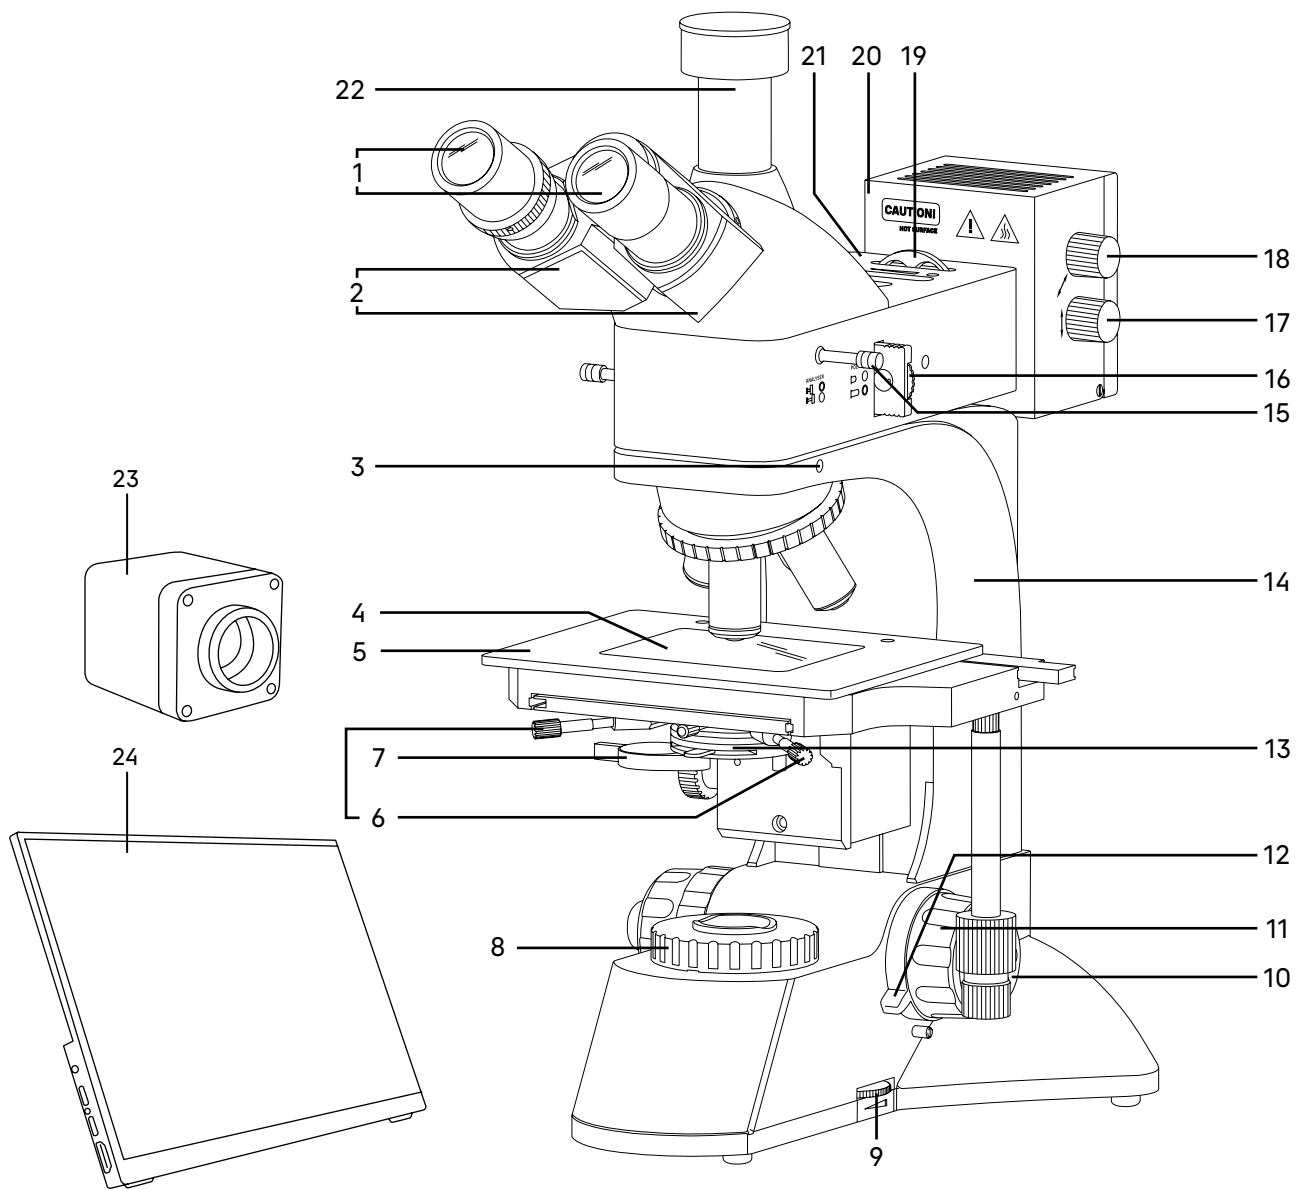
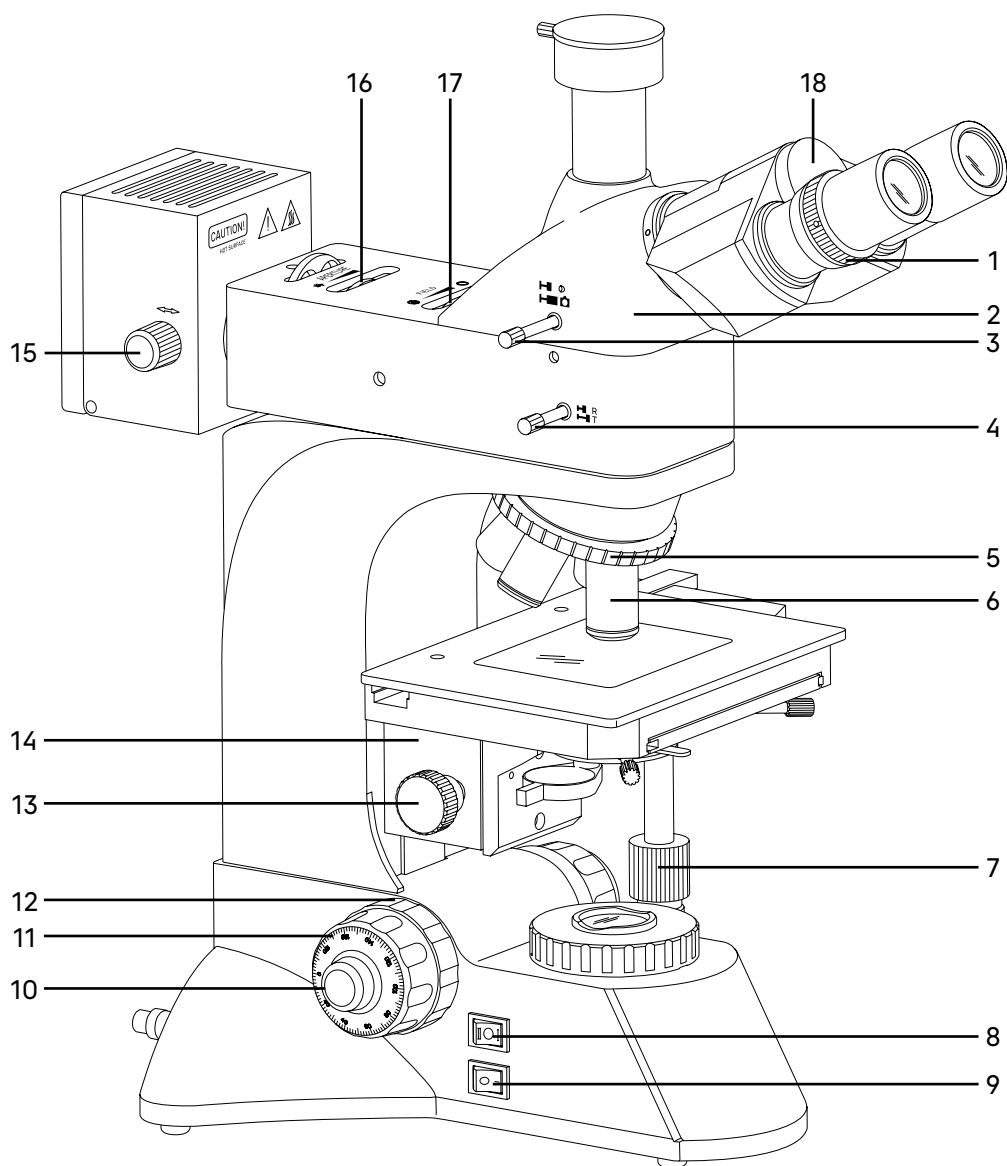

Fig. 1. MAGUS Metal D600 LCD Microscope. View from the right
Fig. 2. MAGUS Metal D600 LCD Microscope. View from the left
The general view of the microscope is given in Fig. 1, 2 and 3.
Parts attached to the stand 14 (Fig. 1):
- revolving nosepiece 5 (Fig. 2) with objectives 6 (Fig. 2)
- stage 5 (Fig. 1)
- condenser mount 14 (Fig. 2).
There is an ON/OFF switch 9 (Fig. 2) on the left side of the base. The power is on when the switch is in "—" position. The power is off when the switch is in "0" position.
There is also a transmitted/reflected light switch lever 8 (Fig. 2) on the left of the base. Position "I" corresponds to the transmitted light illuminator, position "II" – to the reflected light illuminator.
There is a brightness adjustment ring 9 (Fig. 1) on the right side of the base.
Focusing on the specimen is achieved by adjusting the height of the stage 5 (Fig. 1). Coarse focusing is performed by rotating the coaxial knobs 11 (Fig. 1 and 2) on both sides of the microscope stand.
Fine focusing is performed by rotating the knobs 10 (Fig. 1 and 2) on both sides of the microscope stand. Fine focusing allows for more precise focusing on the specimen and re-focusing the microscope to get an accurate image resolution when changing objectives.
The coarse focusing tension adjusting knob 12 (Fig. 2) is the ring between the stand and the coarse focusing knob on the left side. The ring adjusts the coarse focusing tension so that the tension is comfortable for the user, but the stage does not lower spontaneously during operation.
The coarse focusing lock knob 12 (Fig. 1) is located on the right side. Once the coarse focusing is completed, we recommend rotating the knob clockwise as far as it will go. This secures the coarse focusing position to allow for rapid re-focusing after the specimen is changed.
The microscope head 2 (Fig. 2) provides the visual observation of the specimen image.
The interpupillary distance is adjusted by rotating the eyepiece tubes 2 (Fig. 1) in the range of 48–75mm. The distance between the eyepieces matching the observer's interpupillary distance is marked on the adjustment scale 18 (Fig. 2) on the microscope head.
The diopter adjustment on the left eyepiece tube is intended to compensate for the observer's ametropia. The axial position of the eyepiece is adjusted by the ring 1 (Fig. 2). The second eyepiece tube is fixed.
A C-mount 1x adapter is installed in the trinocular tube 22 (Fig. 1) of the microscope head to fix the camera (video eyepiece). The camera is used to transmit the image to a computer screen or monitor/TV. You can switch the light path to the trinocular tube using the lever 3 (Fig. 2). The lever has two positions: 100/0 and 0/100.
The microscope kit includes eyepieces 1 (Fig. 1). The eyepieces have long eye relief and are designed to work with or without glasses.
Revolving nosepiece 5 (Fig. 2) allows for the installation of five objectives 6 (Fig. 2). Objectives are changed by rotating the knurled ring of the revolving nosepiece until the objective fits into place.
The X/Y stage 5 (Fig. 1) allows for moving the specimen in two mutually perpendicular directions using the knobs 7 (Fig. 2) located on the same axis.
The condenser 13 (Fig. 1) is installed using the mount 14 (Fig. 2) under the microscope stage. It has screw type fastening. You can move the condenser along the optical path of the microscope using the condenser focus knob 13 (Fig. 2) located on the left of the observer under the stage. The condenser focusing range is at least 13mm.
The bulb is powered from the AC power supply through a power source built into the stand. The illuminator is switched on by means of an ON/OFF switch 9 (Fig. 2) and a switch 8 (Fig. 2). The brightness is adjusted using the ring 9 (Fig. 1).